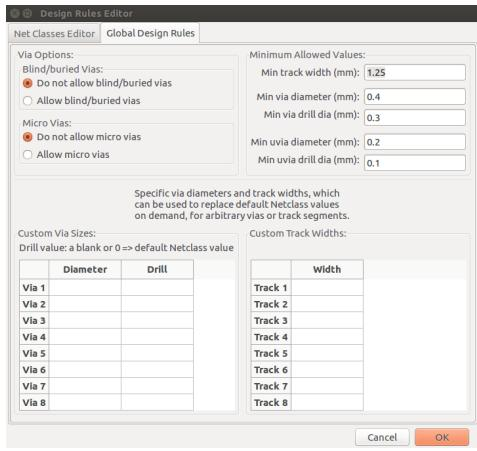

Figure 16.17: Design Rules Editor Window: Global Design Rules
3. Click on Global Design Rules, under Minimum Allowed Values, locate Min track width, erase the default value and enter 1.25 in the data entry field on the right side of it as shown in Fig. 16.17. This will ensure that all tracks placed are of width 1.25mm and that when we perform Design Rules Check, the checks